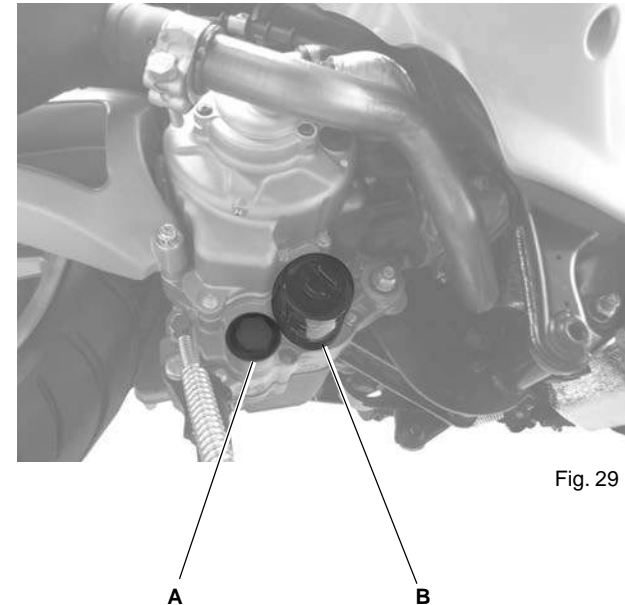

Fig. 29
- Turn engine off. Put an oil collecting pan under engine crankcase, and in particular under the cap (A - Fig. 29).
- Remove cartridge oil filter with relevant O-ring (B - Fig. 29) and replace.